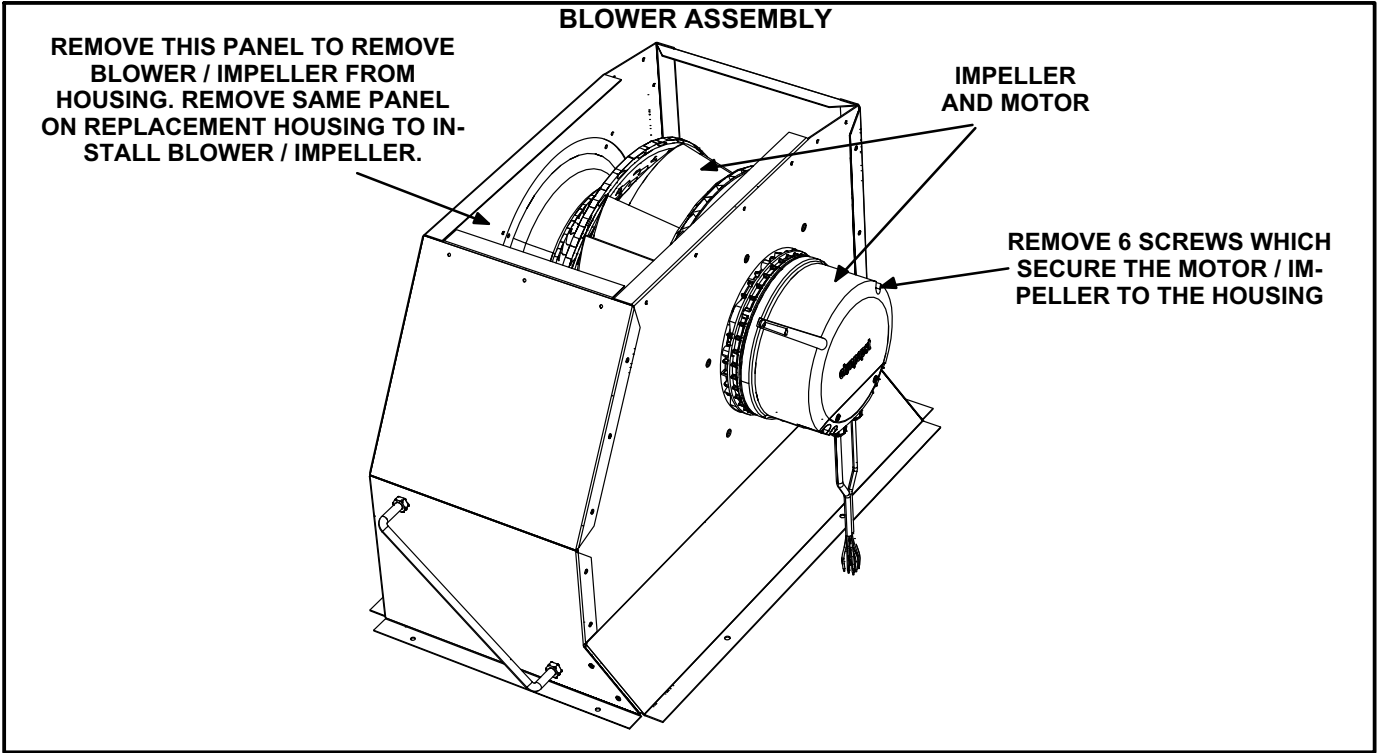

FIGURE 4
- 8- Turn the blower assembly upside down. See figure 4.
- 10- Remove the motor / impeller secured to the existing housing. See figures 4 and 5.
- 1- Remove one side of the replacement housing. See figures 4 and 5.